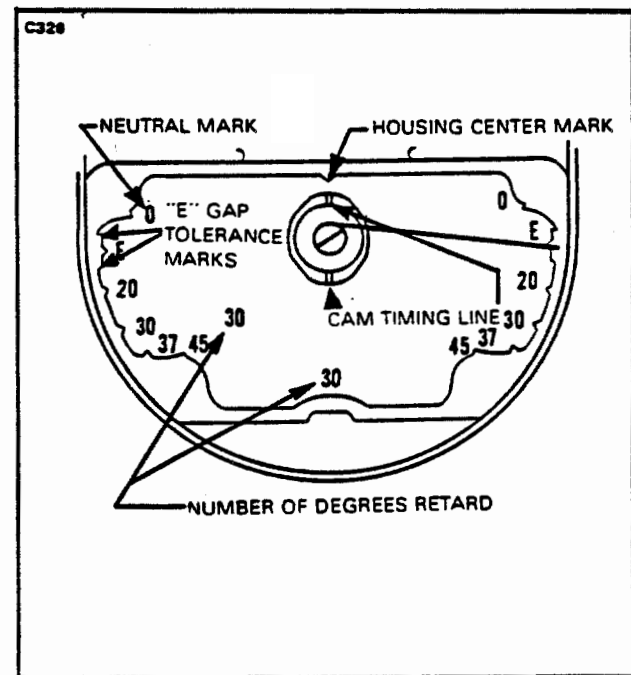

Figure 8-20. Breaker Compartment with Cast Timing Marks
e. If magneto is type which has "cast in" timing marks (-200 series, see Figure 8-20), main breaker may be adjusted with magneto on engine as follows: turn engine crankshaft until notch in cam is aligned with mark at top of breaker compartment. Set wire pointer in center of the "E" gap boss at the side of breaker compartment. Connect timing light across main breaker. Adjust main breaker contacts to open at this point. Turn engine crankshaft until cam follower is on the high point of the cam lobe. Measure contact clearance. It must be $.018 \pm .006$. If necessary, readjust breaker and recheck to be sure that contacts will open within "E" gap tolerance ± 4 degrees. (Width of "E" gap boss.)